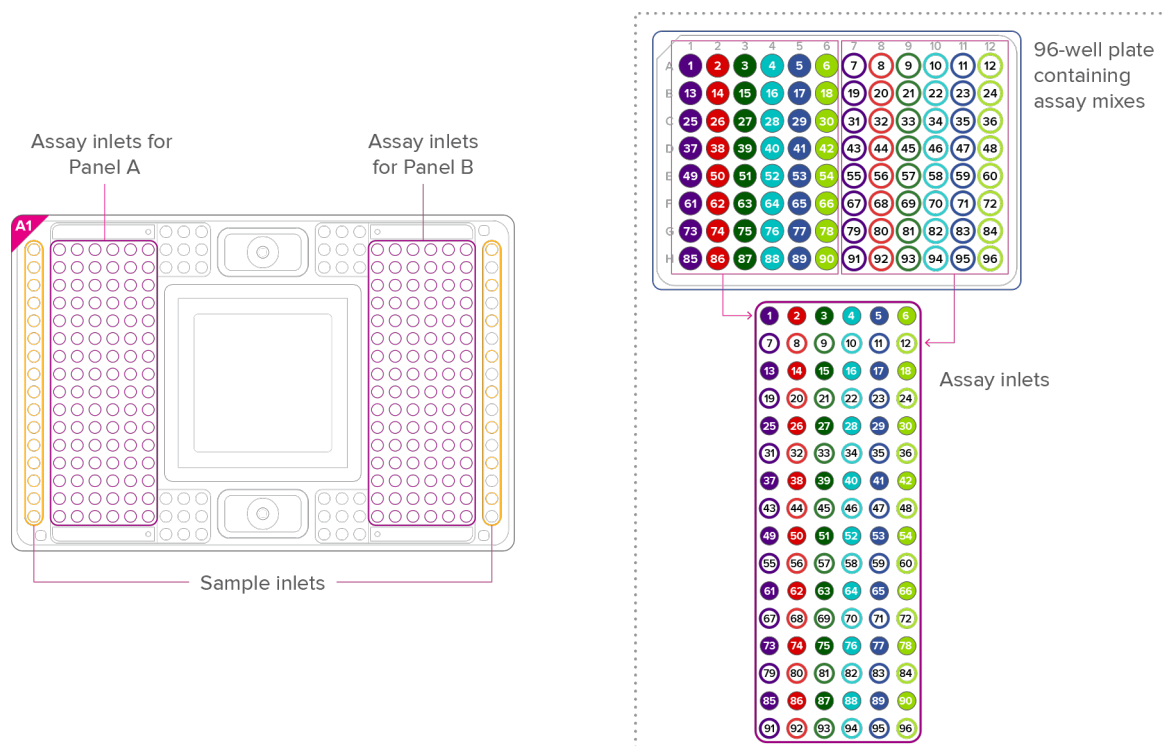

Figure 6. Assay loading map
- 7 Pipet the final assay mixes and sample mixes into the GE 24.192 IFC as shown in Figure 6 and Figure 7 on page 15.
- a Following the loading map in Figure 6, pipet 4 μL of each final assay mix into the 192 inlets of the IFC. Pipet one plate of 96 assays on the left side of the IFC, and another plate of assays on the right side